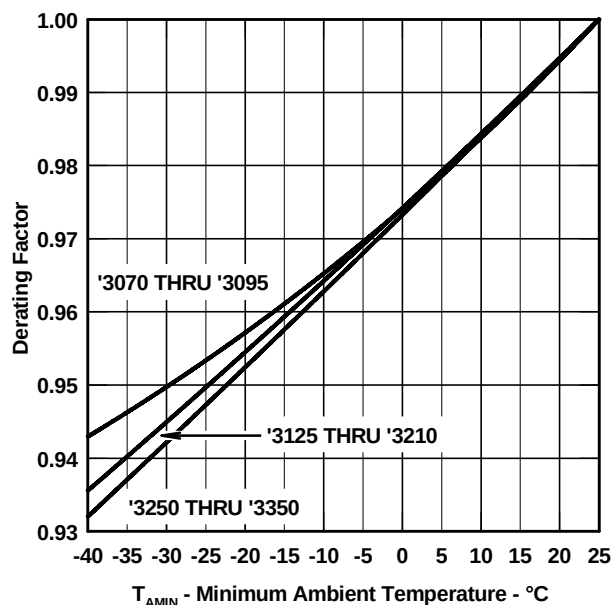

Figure 9.
- NOTES: 1. See Figure 9 for voltage values at lower temperatures.
Figure 9 allows the calculation of the protector V_{DRM} value at temperatures below 25 °C. The calculated value should not be less than the maximum normal system voltages. The TISP3290H3, with a V_{DRM} of 220 V, can be used for the protection of ring generators producing 105 V rms of ring on a battery voltage of -58 V. The peak ring voltage will be $58 + 1.414 \times 105 = 206.5$ V. However, this is the open circuit voltage and the connection of the line and its equipment will reduce the peak voltage.
For the extreme case of an unconnected line, the temperature at which clipping begins can be calculated using the data from Figure 9. To possibly clip, the V_{DRM} value has to be 206.5 V. This is a reduction of the 220 V 25 °C V_{DRM} value by a factor of $206.5/220 = 0.94$. Figure 9 shows that a 0.94 reduction will occur at an ambient temperature of -32 °C. In this example, the TISP3290H3 will allow normal equipment operation, even on an open-circuit line, provided that the minimum expected ambient temperature does not fall below -32 °C.